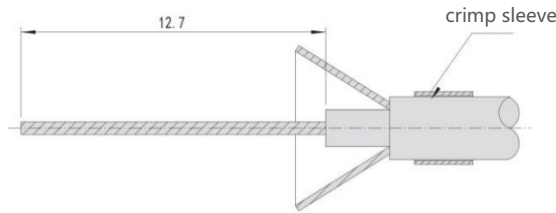

Figure 1.9
- ② As shown in Figure 1.9, slide the crimp sleeve backward onto the cable jacket, spread open the shield layer, and strip off the cable dielectric.